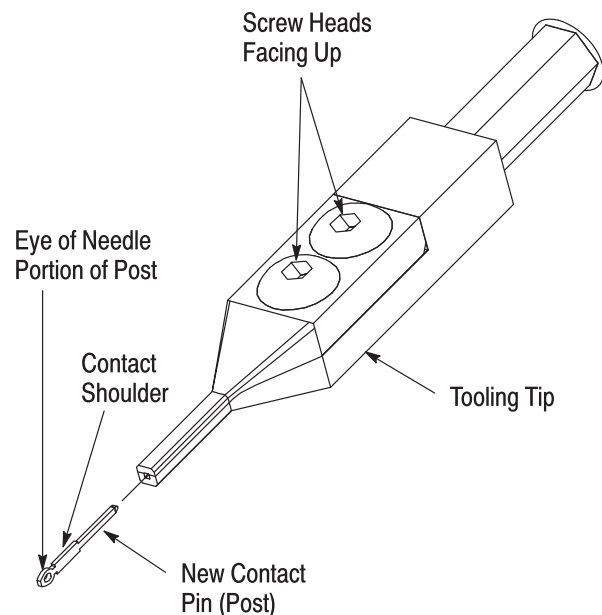

Figure 2
1. Insert new post into the tooling tip as shown in Figure 2. In order to ensure proper orientation of the post during insertion, the post will only enter the tooling tip one way. Note the following during post placement:
- Shoulders of the contact aligned with screws, as shown in Figure 2.